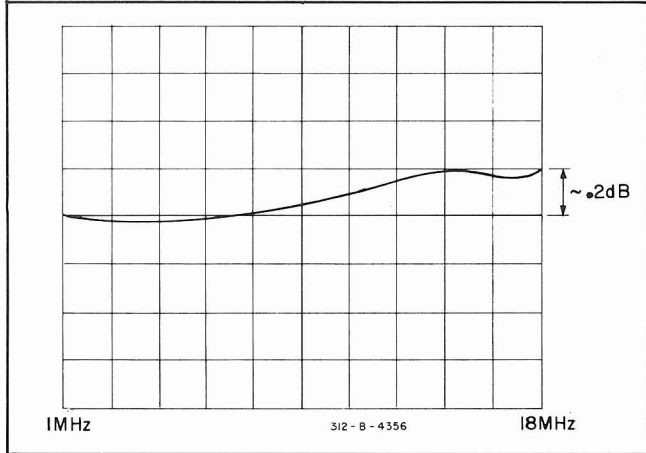

Figure 5-17. Optimum Adjustment of A33 – 312B.
e. Adjust the oscilloscope controls for a display which looks like Figure 5-17. The display gives relative frequency response with frequency increasing from left to right. The display is meaningful only when the trace moves from left to right. The retrace (right to left motion) should be ignored. Use the offset control for vertical positioning. Set the storage persistence so that each sweep fades out before the next one starts.
The waveform of Figure 5-17 is ideal for the 312B. For the 312D the same waveform is ideal but the response should not peak more than + 0.1 dB at high frequencies.
7. Adjust C2. Reduce the slope of the frequency response as shown in Figure 5-17. If necessary, re-adjust C11 and L2 to achieve this response. If the frequency response cannot be adjusted, return to Step 1 and repeat the procedure using different settings for L1 and L3. If the response is correct, proceed to Step i.
c. Adjust A32C10 for the same frequency response characteristic shown in Figure 5-17.